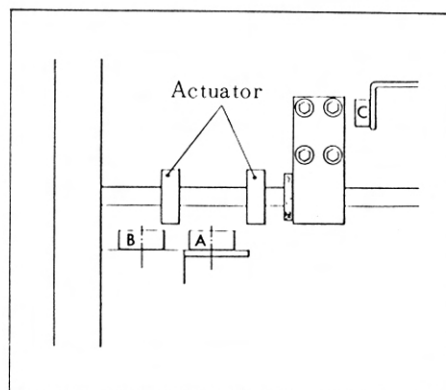

Figure 4
4. Center Cut Length (Figure 4)